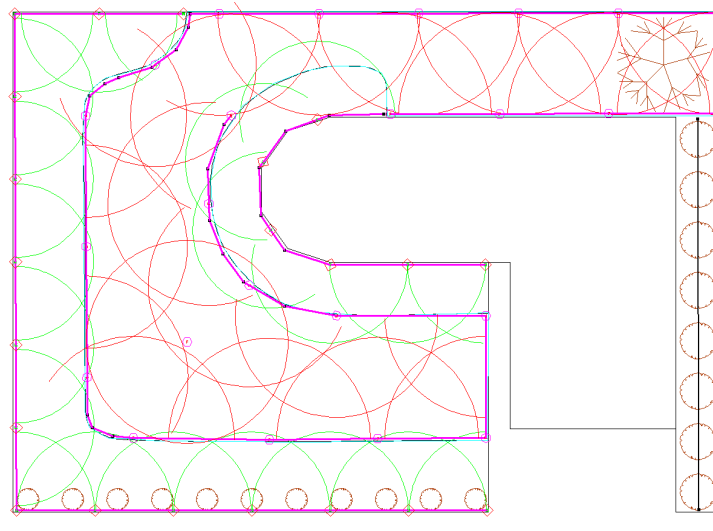

Figure 4-72
35. Select *Zone/Tape* and from the dropdown list select the **Drip Tape 0.17/100' (1.65lph)**. Set the inlet pressure to **14psi (10m)**. Do not check the "Regulated" checkbox as this tape is not pressure regulated at the inlet. Click [OK] and draw a tape through the line of shrubs at the right-hand side of the house, from about the middle of the bottom shrub up to the middle of the top shrub. Select *Right-click/Restart*. See Figure 4-72.